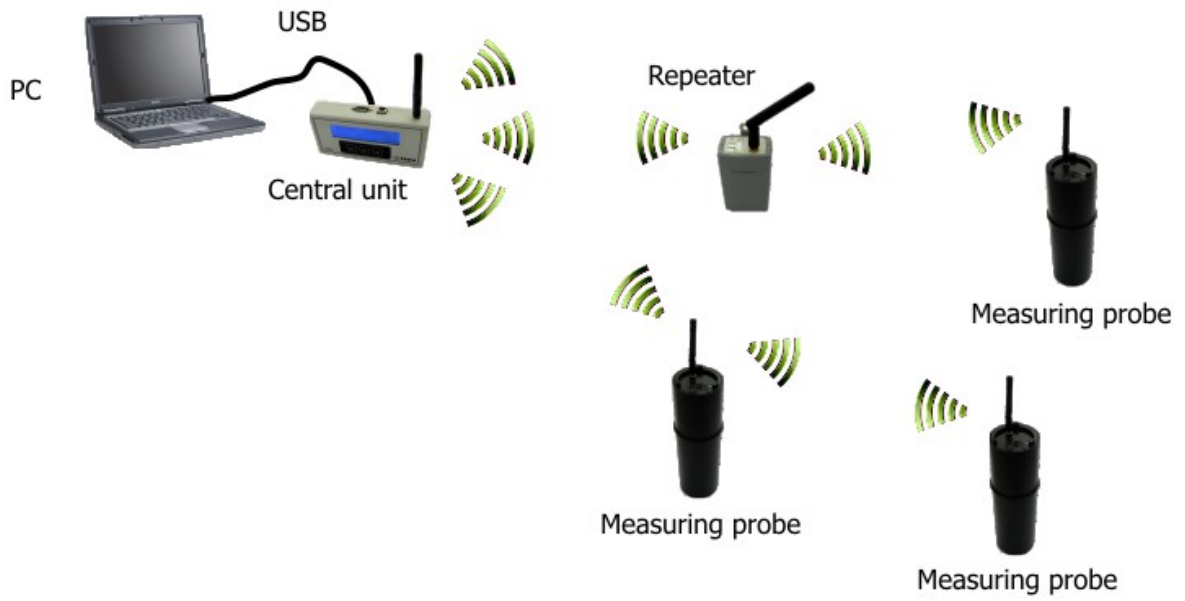

Figure 1 - Terminal in TERA System for Radon Concentration Measurement
- A) TERA System for Radon Concentration Measurement (Figure 1)